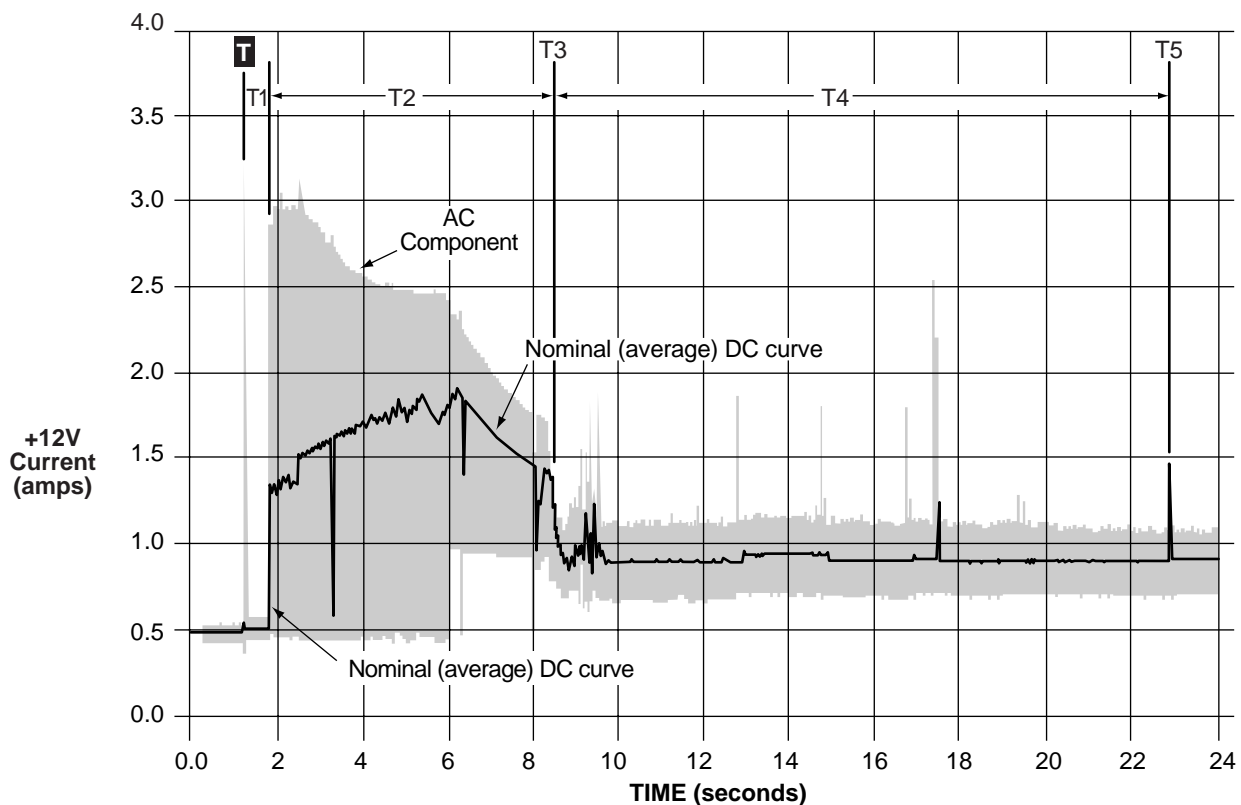

Figure 3. Typical Barracuda 9LP FC drive +12V current profile
- [3] See +12V current profile in Figure 3.
Figure 3 identifies the drive +12V current profile. The current during the various times is as shown: